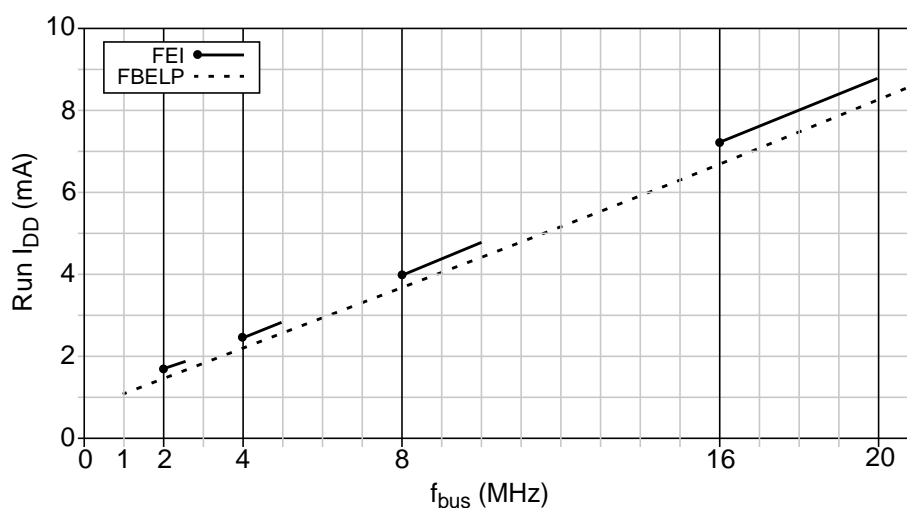

Figure A-5. Typical Run I_{DD} vs. Bus Frequency (V_{DD} = 5V)
- ¹ Typical values are based on characterization data at 25°C. See Figure A-5 through Figure A-7 for typical curves across voltage/temperature.